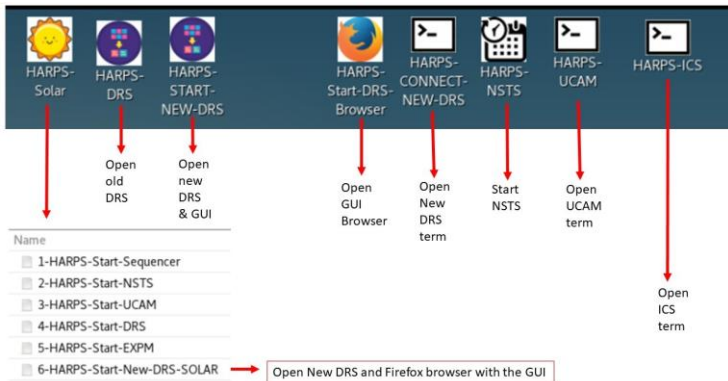
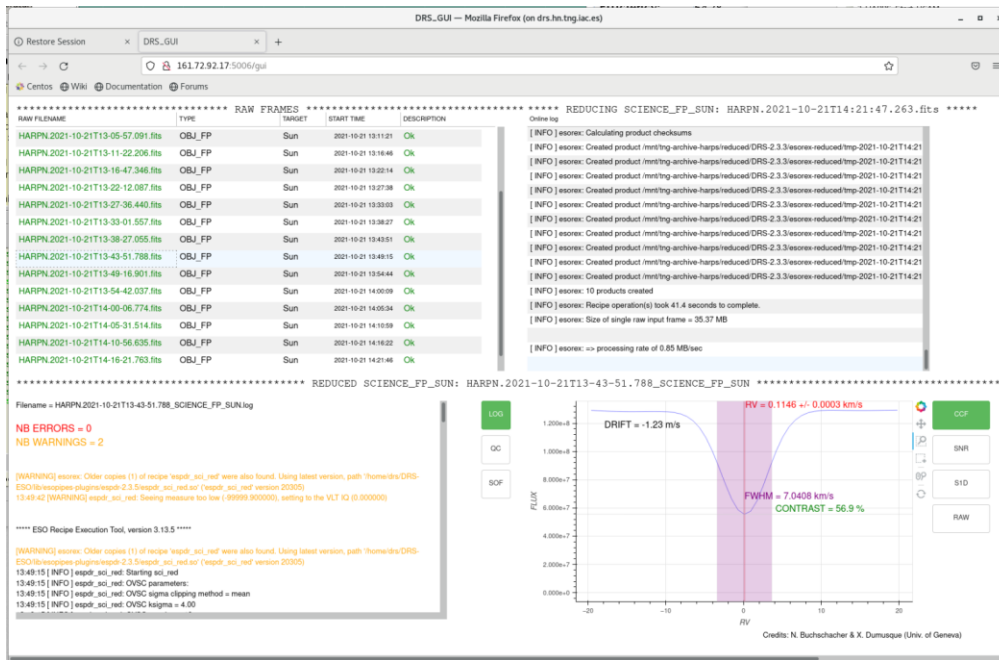

Figure 18 - brunello workstation desktop
Figure 24 - The WEB GUI
From the **brunello** workstation click on the **HARPS Short Time Scheduler** icon (the icons can be different from the Figure 18).
- 1) Open a HARPS-DRS terminals by clicking the HARPS-DRS icon in the **brunello** workstation, Figure 18 (or execute: `ssh -Y harpn@drs32.hn` from a linux machine)
The fast method to start the ESPRESSO DRS is by click the HARPS-START-NEW-DRS icon in the Brunello desktop (Figure 18). This shortcut starts the ESPRESSO DRS and the WebGUI (Figure 24).
- 1) Open a HARPS-DRS terminals by clicking the HARPS-CONNECT-NEW-DRS icon in the **brunello** workstation, Figure 18.
The WEB GUI will show any new raw frame arriving in the *current* night directory and the trigger automatically execute the corresponding recipe (Figure 24).